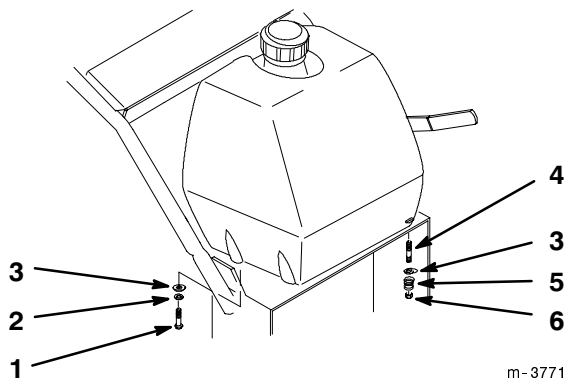

Figure 10
1. Align fuel tank to top of rear frame and secure fuel tank right side with (2) 5/16-18 x 7/8 in. (22.5 mm) bolts, (2) 5/16 lock washers and (2) 5/16 washers (Fig. 10).
2. Secure fuel tank left side to frame with (2) 5/16-18 x 7/8 in. (22.5 mm) studs, (2) 5/16 washers and (2) 5/16 locknuts (Fig. 10).